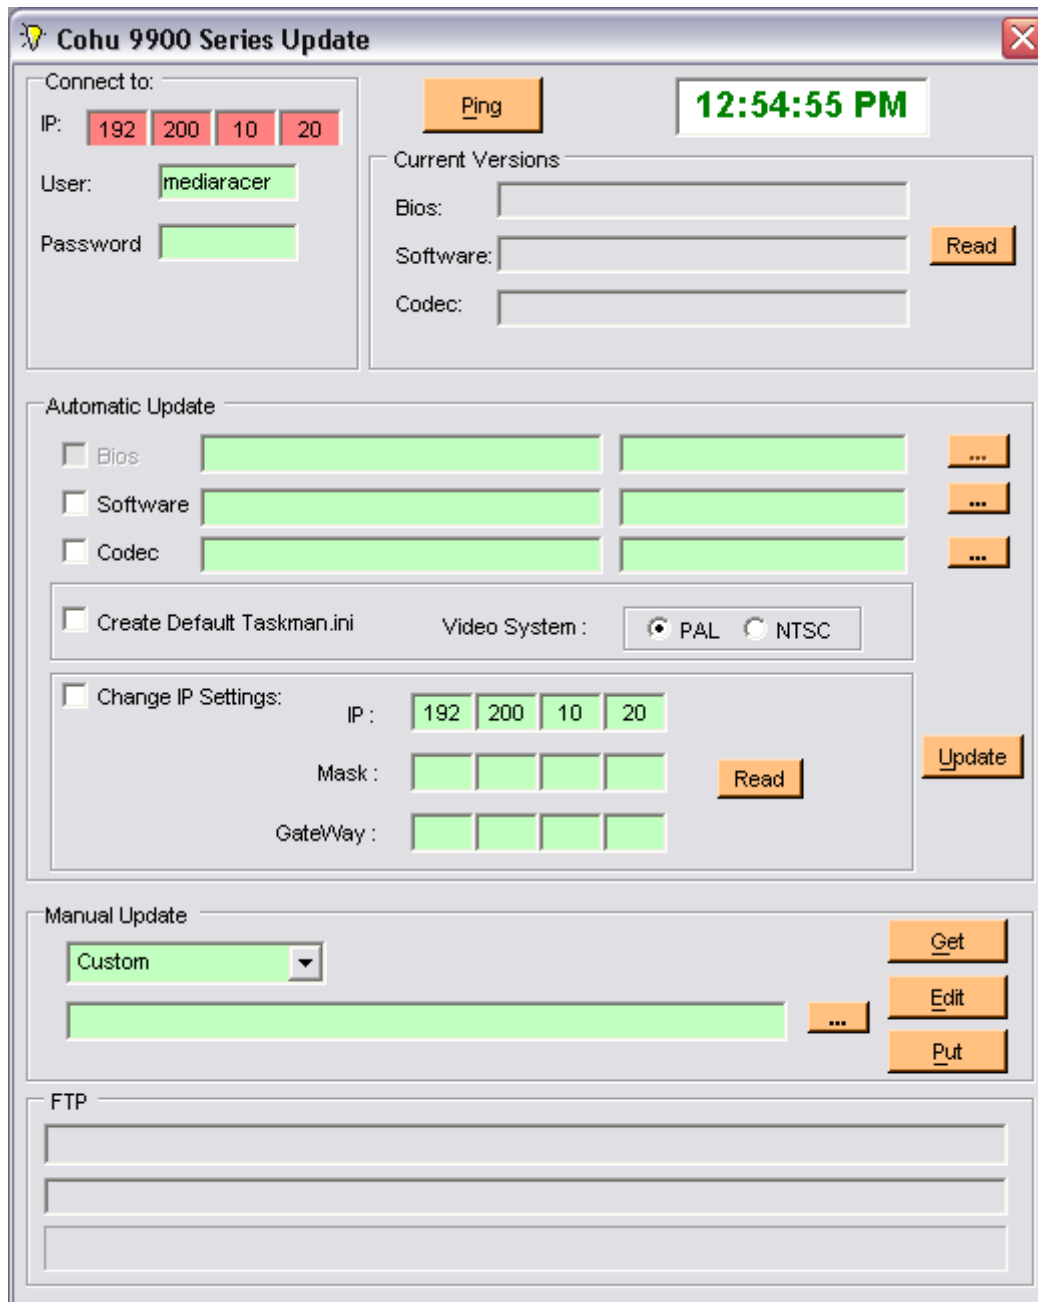

Figure 4-9
8. Wait for operation confirmation (see Figure 4-9).